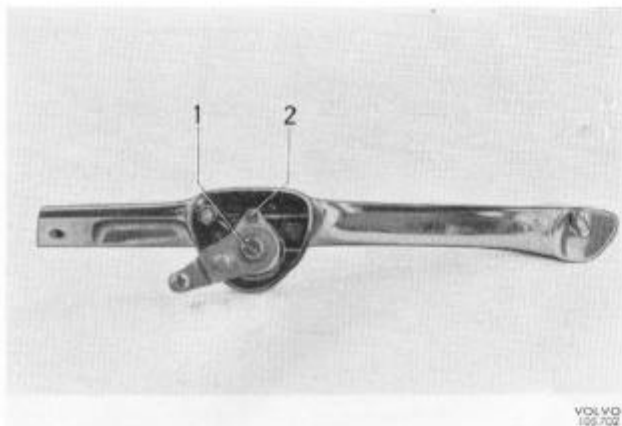

Fig. 8-18. Lock handle
1. Unscrew the bolt (1, Fig. 8-18) for the control arm and the bolt (2) for the sleeve and take off both sleeve and spring.